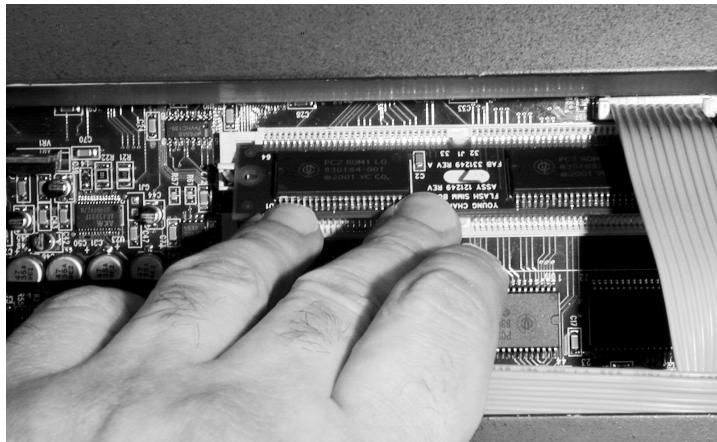

Figure 4 Placing option board in SIMM socket
4. Press straight down on the top edge of the board, as shown in Figure 4, until the locking tabs at each side of the socket snap into place.